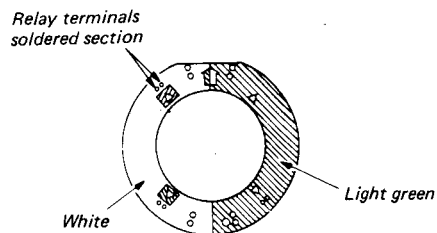

Fig. 1-3-12 Head relay P.C. board
1. Unsolder the relay terminals (at the marks W, 2 pairs - in total 4 locations) on the head relay P.C. board. The solder will be removed easily using a desoldering wire (Fig. 1-3-12/1-3-13).
2. Remove two screws (A) and remove the upper cylinder assembly.
4. Align phases of the white part of Head relay P.C. board and Rotary transformer (A) P.C. board and then mount the upper cylinder.